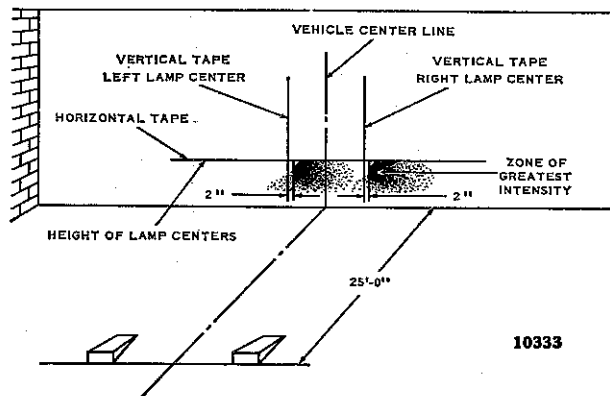

FIG. 183—HEADLIGHT AIMING CHART FOR 6000-SERIES LAMPS
- b. Turn the vertical aiming screw counterclockwise until the lamp beam is considerably lower than the horizontal reference line on the screen. Then, turn the screw clockwise until the top edge of the high intensity area is even with the horizontal line. See Fig. 183.
- c. Turn the horizontal aiming screw counterclockwise until the beam is off. Then, turn the same screw clockwise until the left edge of the high intensity area is 2" [50,8 mm.] to the right of the lamp center line. See Fig. 183.